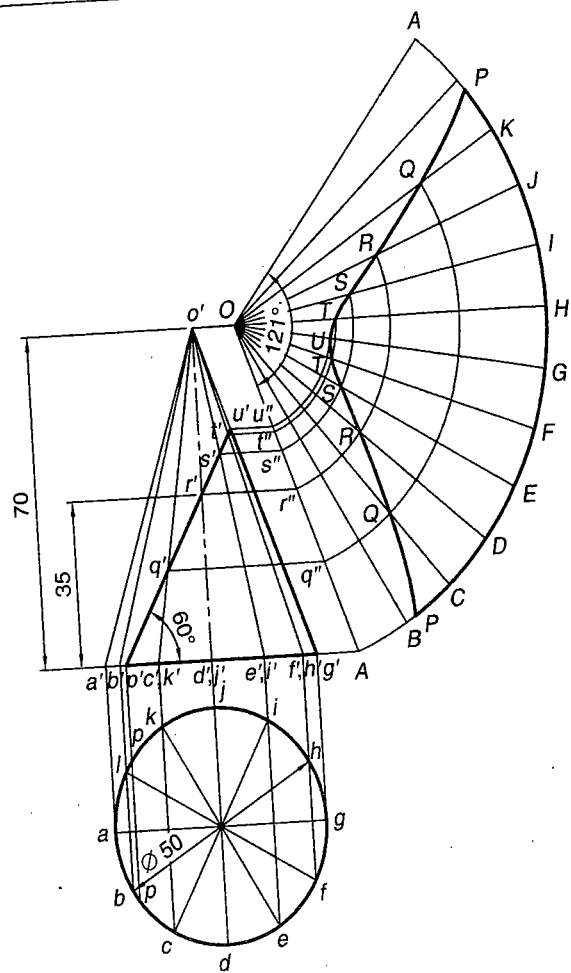

Fig. 13.8
**PROBLEM 13.8 (FIG. 13.8)** A cone with a 50 mm base diameter and a 70 mm long axis, rests on its base on the H.P. Draw the development of its lateral surface when it is cut by an auxiliary inclined plane bisecting the axis and inclined at  $60^\circ$  to the H.P.
**CONSTRUCTION** Figure 13.8